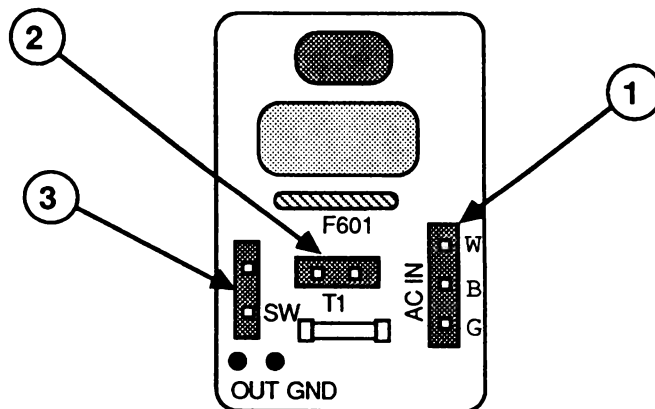

FIGURE 4
10. Disconnect the AC IN connector (Figure 4, #1) from the line filter board.
- a) If there are **three** AC IN connector pins at the markings **W** (white), **B** (black), and **G** (green) on the filter board, the power cord ground wire is connected to the line filter board circuitry, and the monitor is properly grounded. Reconnect the AC IN connector (Figure 4, #1) to the line filter board, and proceed to step 19.
- T1 (Figure 4, #2)
- SW (Figure 4, #3)